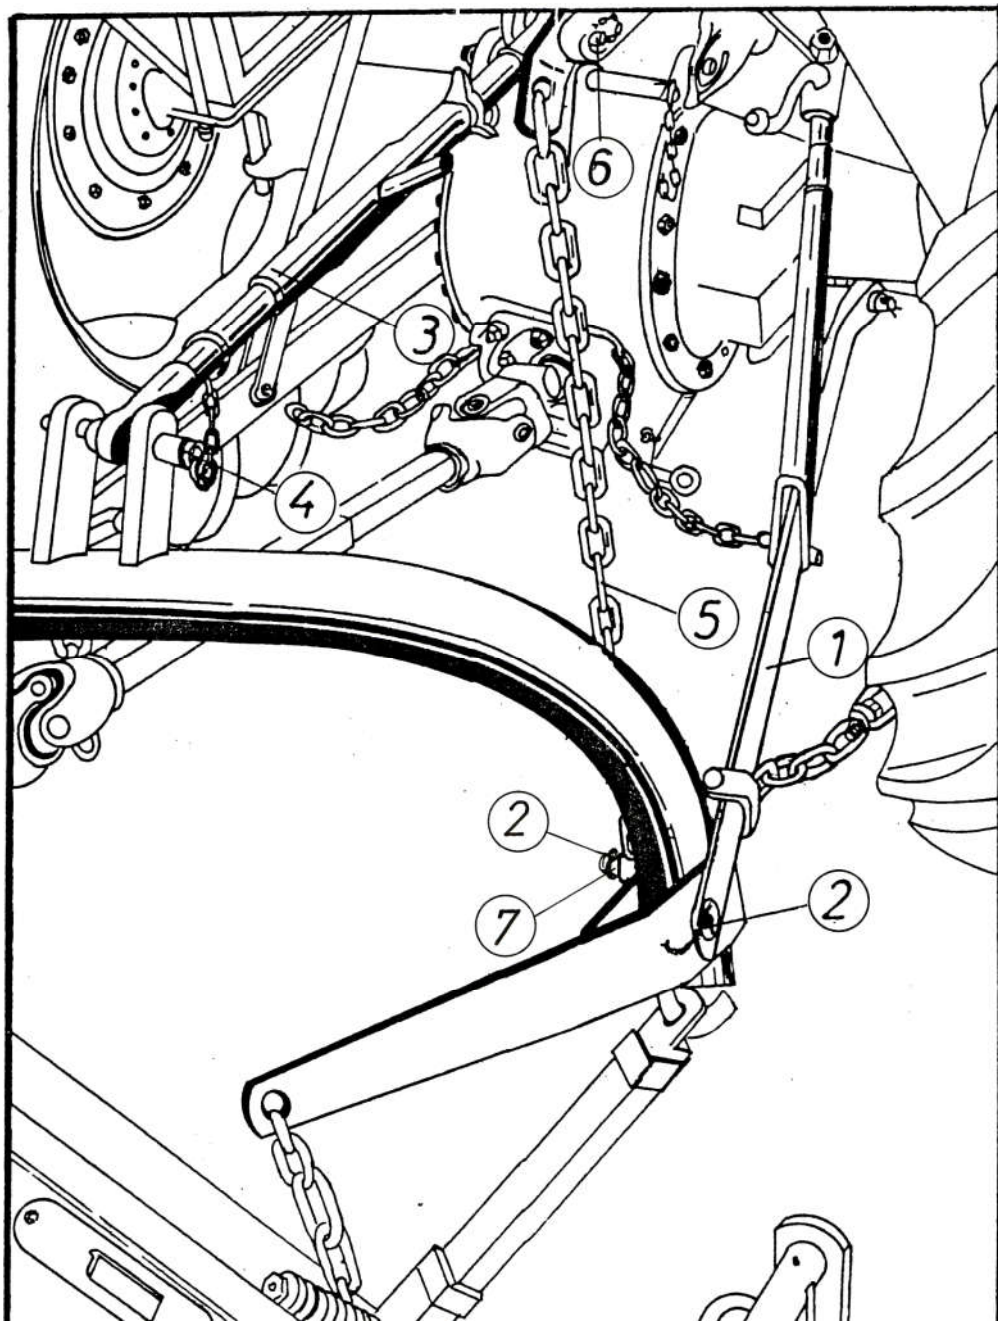

Figure 3
Move the tractor backwards, lower the lower tractor levers (figure 3, item 1) using the hydraulics at the height of the axis of the attachment shafts of the supporting frame and make the connection.
Secure the connection with the fuses (item 2, figure 3) with the shaft (item 4, figure 3) to connect the upper tractor lever (item 3, fig. 3) with the bearing frame and secure with the existing fuse.
Upon completion of the previous operations, hydraulics raise the mower from the ground so that the height from the ground to the protective sheet of the pulley is 60 - 70 cm and approaching the connection of the chain (item 5, figure 3).
Secure the chainholder (figure 3, item 6) with a pin that binds the upper tractor lever with the eyelet on the tractor.
The chainholder with the chain (item 5, figure 3) should be placed on the shaft (item 7, figure 3) located on the frame and secured with a fuse (item 2, figure 3). Attach the chain to the chain holder and determine the length of the chain so that after releasing the hydraulics the mower takes the appropriate position.
- Using hydraulics, slightly raise the mower, when hydraulics chain loosens unfasten it (figure 3, item 5).
- The whole mower is lowered by hydraulics by the time the stub firmly rests on the ground, and then the hydraulic chain is attached (figure 3, item 5). Set the chain length so that it is tight.